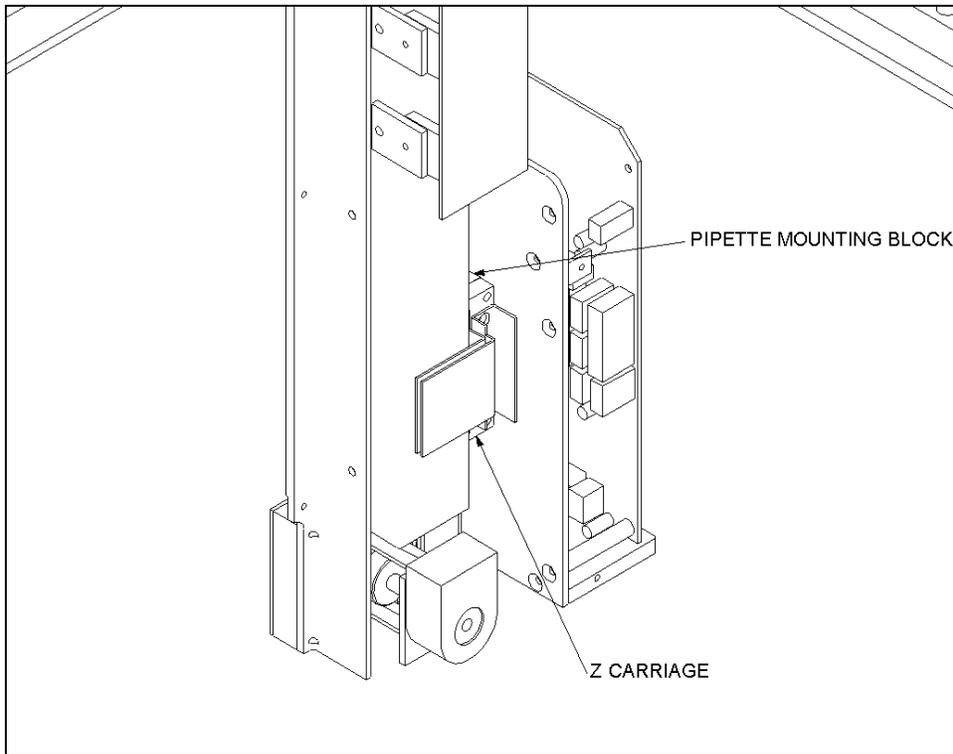

Figure 7-3 Mounted Pipette Assembly
- 3 Remove the Pipette Assembly from the Z-Drive Assembly by removing the two M3 x 12 SHCS screws that attach the Pipette Assembly to the Drive Assembly (Figure 7-3). The block is pinned in the center, so rocking the pipette from left to right will frequently aid in removing the module from the Z mount.